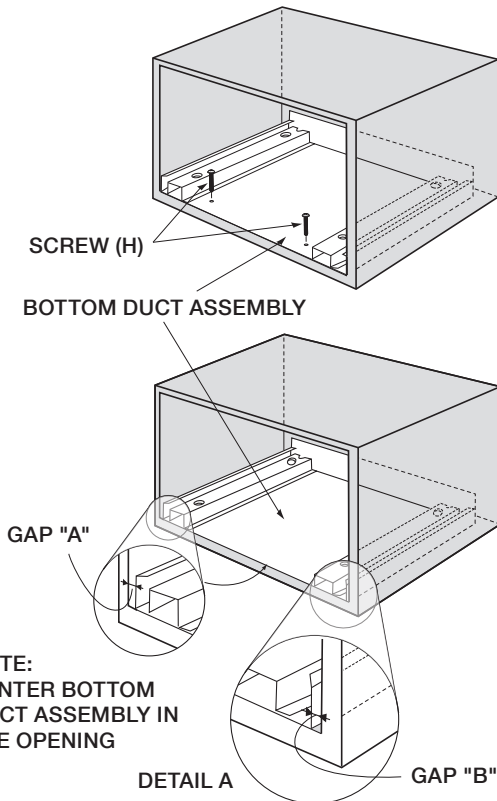

Figure 6
A. **BOTTOM DUCT ASSEMBLY:** Place the Bottom duct in the center of the opening so that gap "A" is equal to gap "B". When the Bottom Duct assembly is positioned properly, the front edge of the duct will be flush with the front of the cabinet. Secure with 2 SCREWS (H) See Figure 6.